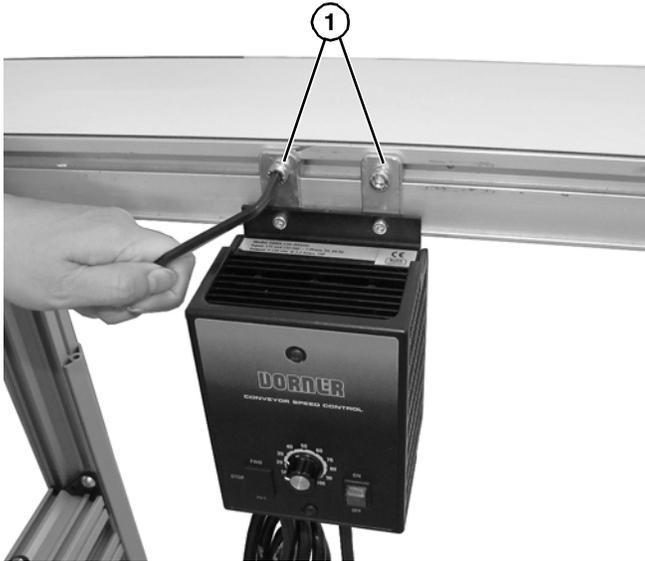

Figure 5
3. Attach controller to conveyor with two screws (**Figure 5, item 1**).